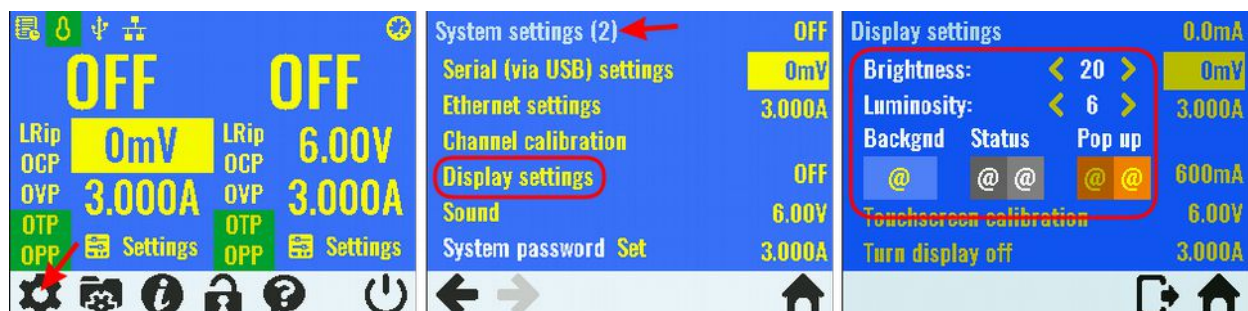

Fig. 35: Display settings page (firmware v1.01)
- **Display colors are “washed out”** – it appears that for used “noname” display backlight and colors intensity could vary considerably. While testing we found about half of dozen different level of backlight intensity. We tried to rectify that to some extend by offering display brightness and background color (i.e. the blue one) luminosity settings. You can find that parameters under system settings page 2 as shown on Fig. 35. We tried to set the most appropriate luminosity level for your display. The default value is 15 but if your found here e.g. 10 (for firmware v1.0) that means that your display is unfortunately is too bright (hence lower value). In that case the real “cure” is to start hunting for better unit on eBay or similar online shops.